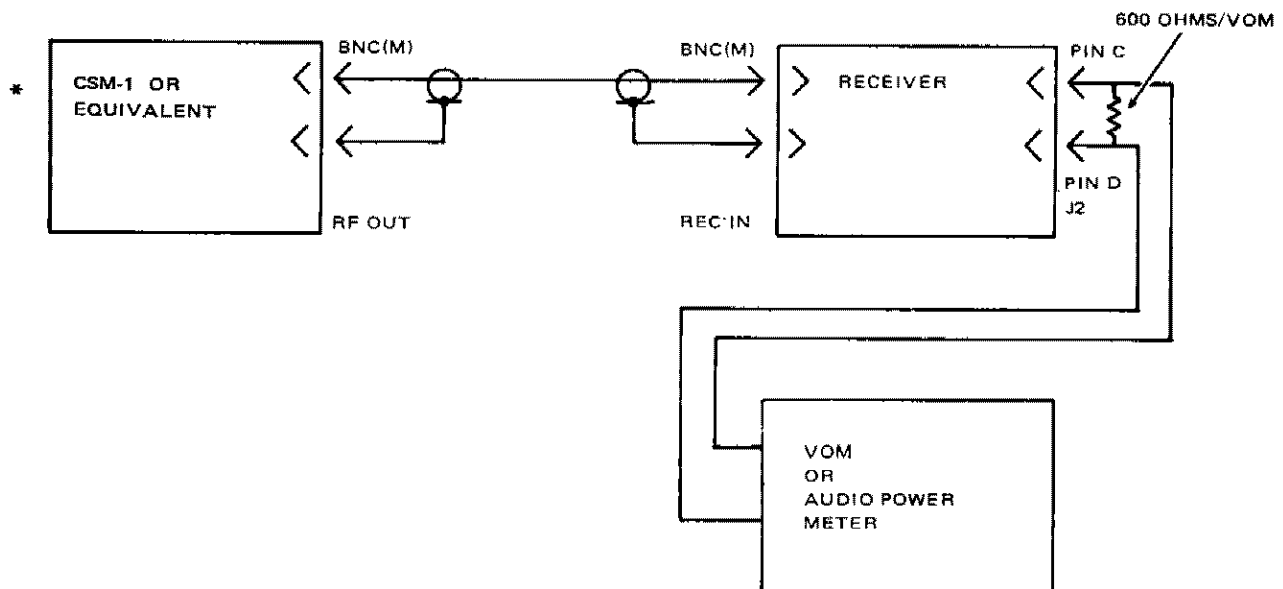

Figure 9-9. Test Setup for Acceptance Checkout
**9.7 ACCEPTANCE CHECKOUT.**- The purpose of this procedure is to provide an overall performance check of the key parameters of the receiver. Figure 9-9 shows the test setup block diagram. See section 4 for standards and tolerances. Data obtained from this test shall be recorded on FAA Form 6600-6 (figure 9-10).
- \* **9.7.2 Procedure.-** Connect test equipment as shown in figure 9-9. Set the frequency dials of the CSM-1 to the receiver channel frequency. Set output level to -98 dBm (3 microvolts) modulated 30% at 1 kHz.